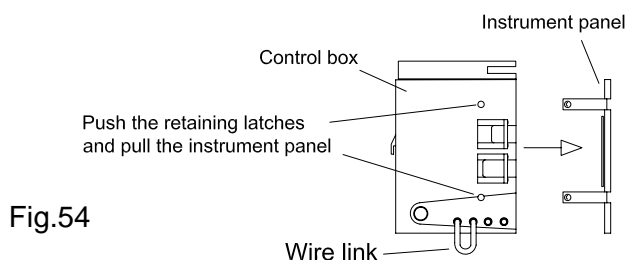

Fig.54
8.27 EXTERNAL CONTROL CONNECTION (Fig. 54)
8.24 TO REMOVE THE INSTRUMENT PANEL (Fig. 54).
Push the four retaining latches and remove the front of the panel box (fig. 54).